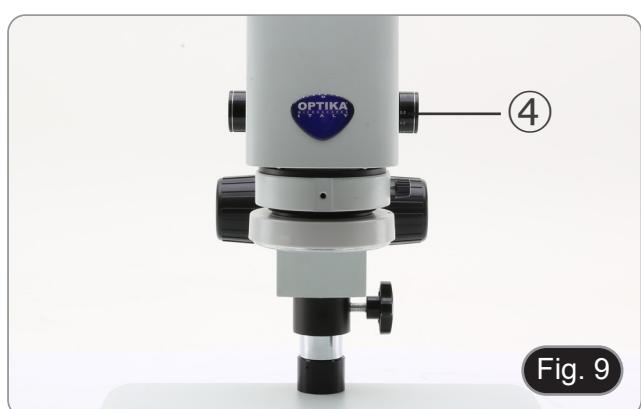

Fig. 9
1. Rotate the zoom adjustment ring ④ to the minimum magnification. (Fig. 9)
3. Rotate the zoom adjustment ring ④ to the maximum magnification.
1. Rotate the zoom adjustment ring ④ to change magnification to the desired level. (Fig. 9)